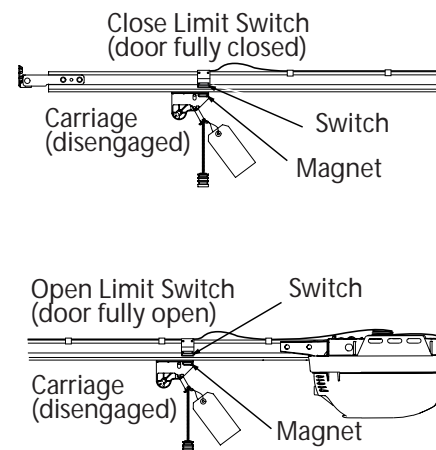

Figure 9 Setting Limit Switches
- A** Setting Close Limit Switch (**Figure 9**):